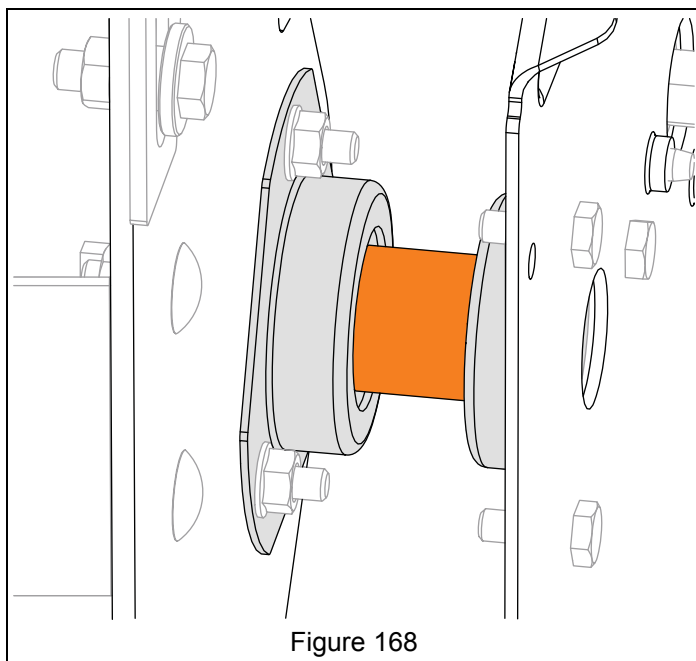

Figure 168
10. Remove sleeve bushing between bearings on frame and carriage side plate. See Figure 168.